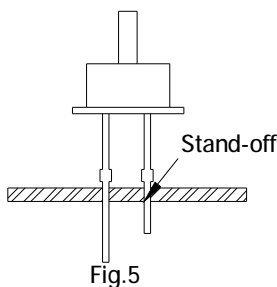
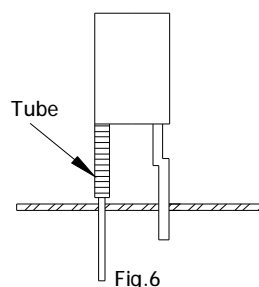

Fig.5
Fig.6
4) Use LEDs with stand-off (Fig.5) or the tube or spacer made of resin (Fig.6) to position the LEDs.